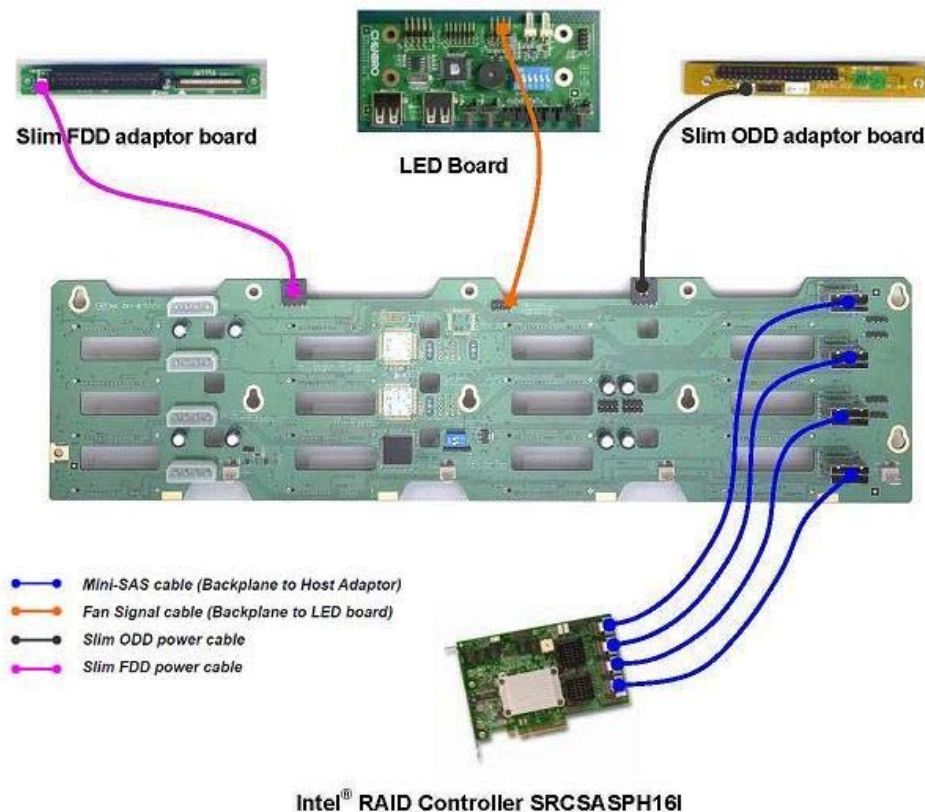

Figure 5. Backplane Wiring Illustration
3. Connect other side of the cables into the backplane shipped with the chassis, as shown in Figure 5.